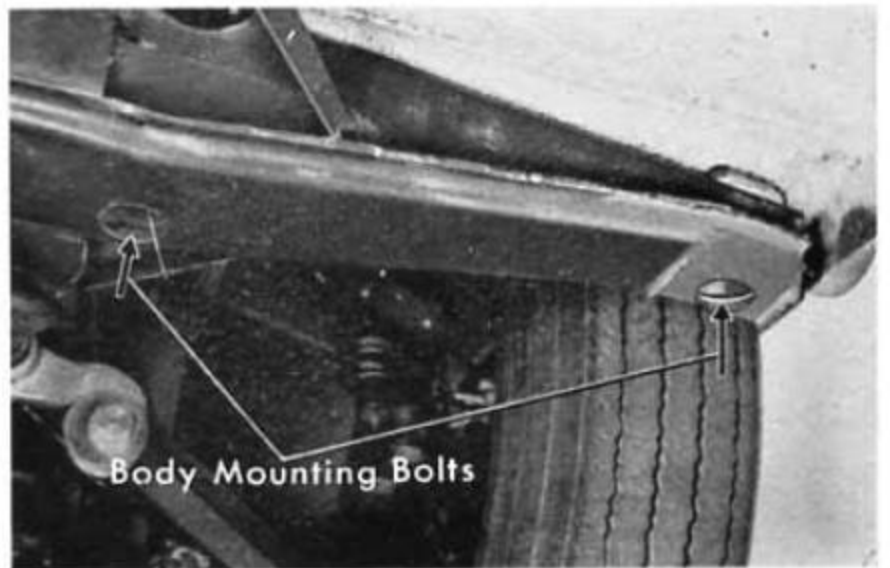

Fig. 17A-17
35. Remove the body mounting bolts, washers and rubber body mounts (Fig. 17A-18).